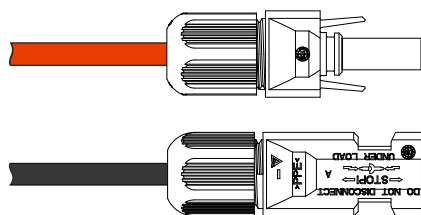

Figure3-38 Tighten the lock nut
Step 4 Screw and tighten the locking nuts of the positive and negative connectors to corresponding insulating shells, as shown in Figure3-38.